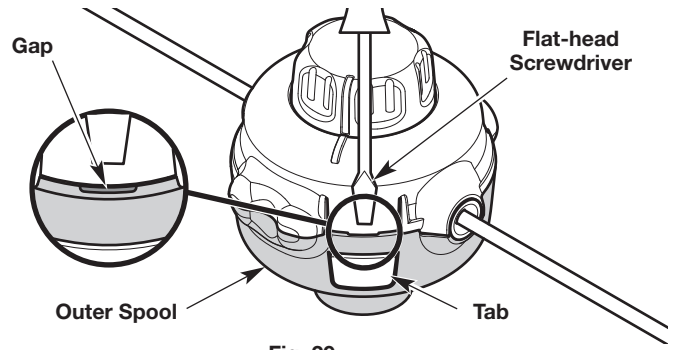

Fig. 29
- a. Firmly press a tab on the cutting head with your thumb (Fig. 29). **DO NOT** press the tab with a screwdriver or other object.
- b. Continue pressing the tab. Insert a flat-head screwdriver into the gap between the outer spool and tab (Fig. 29).